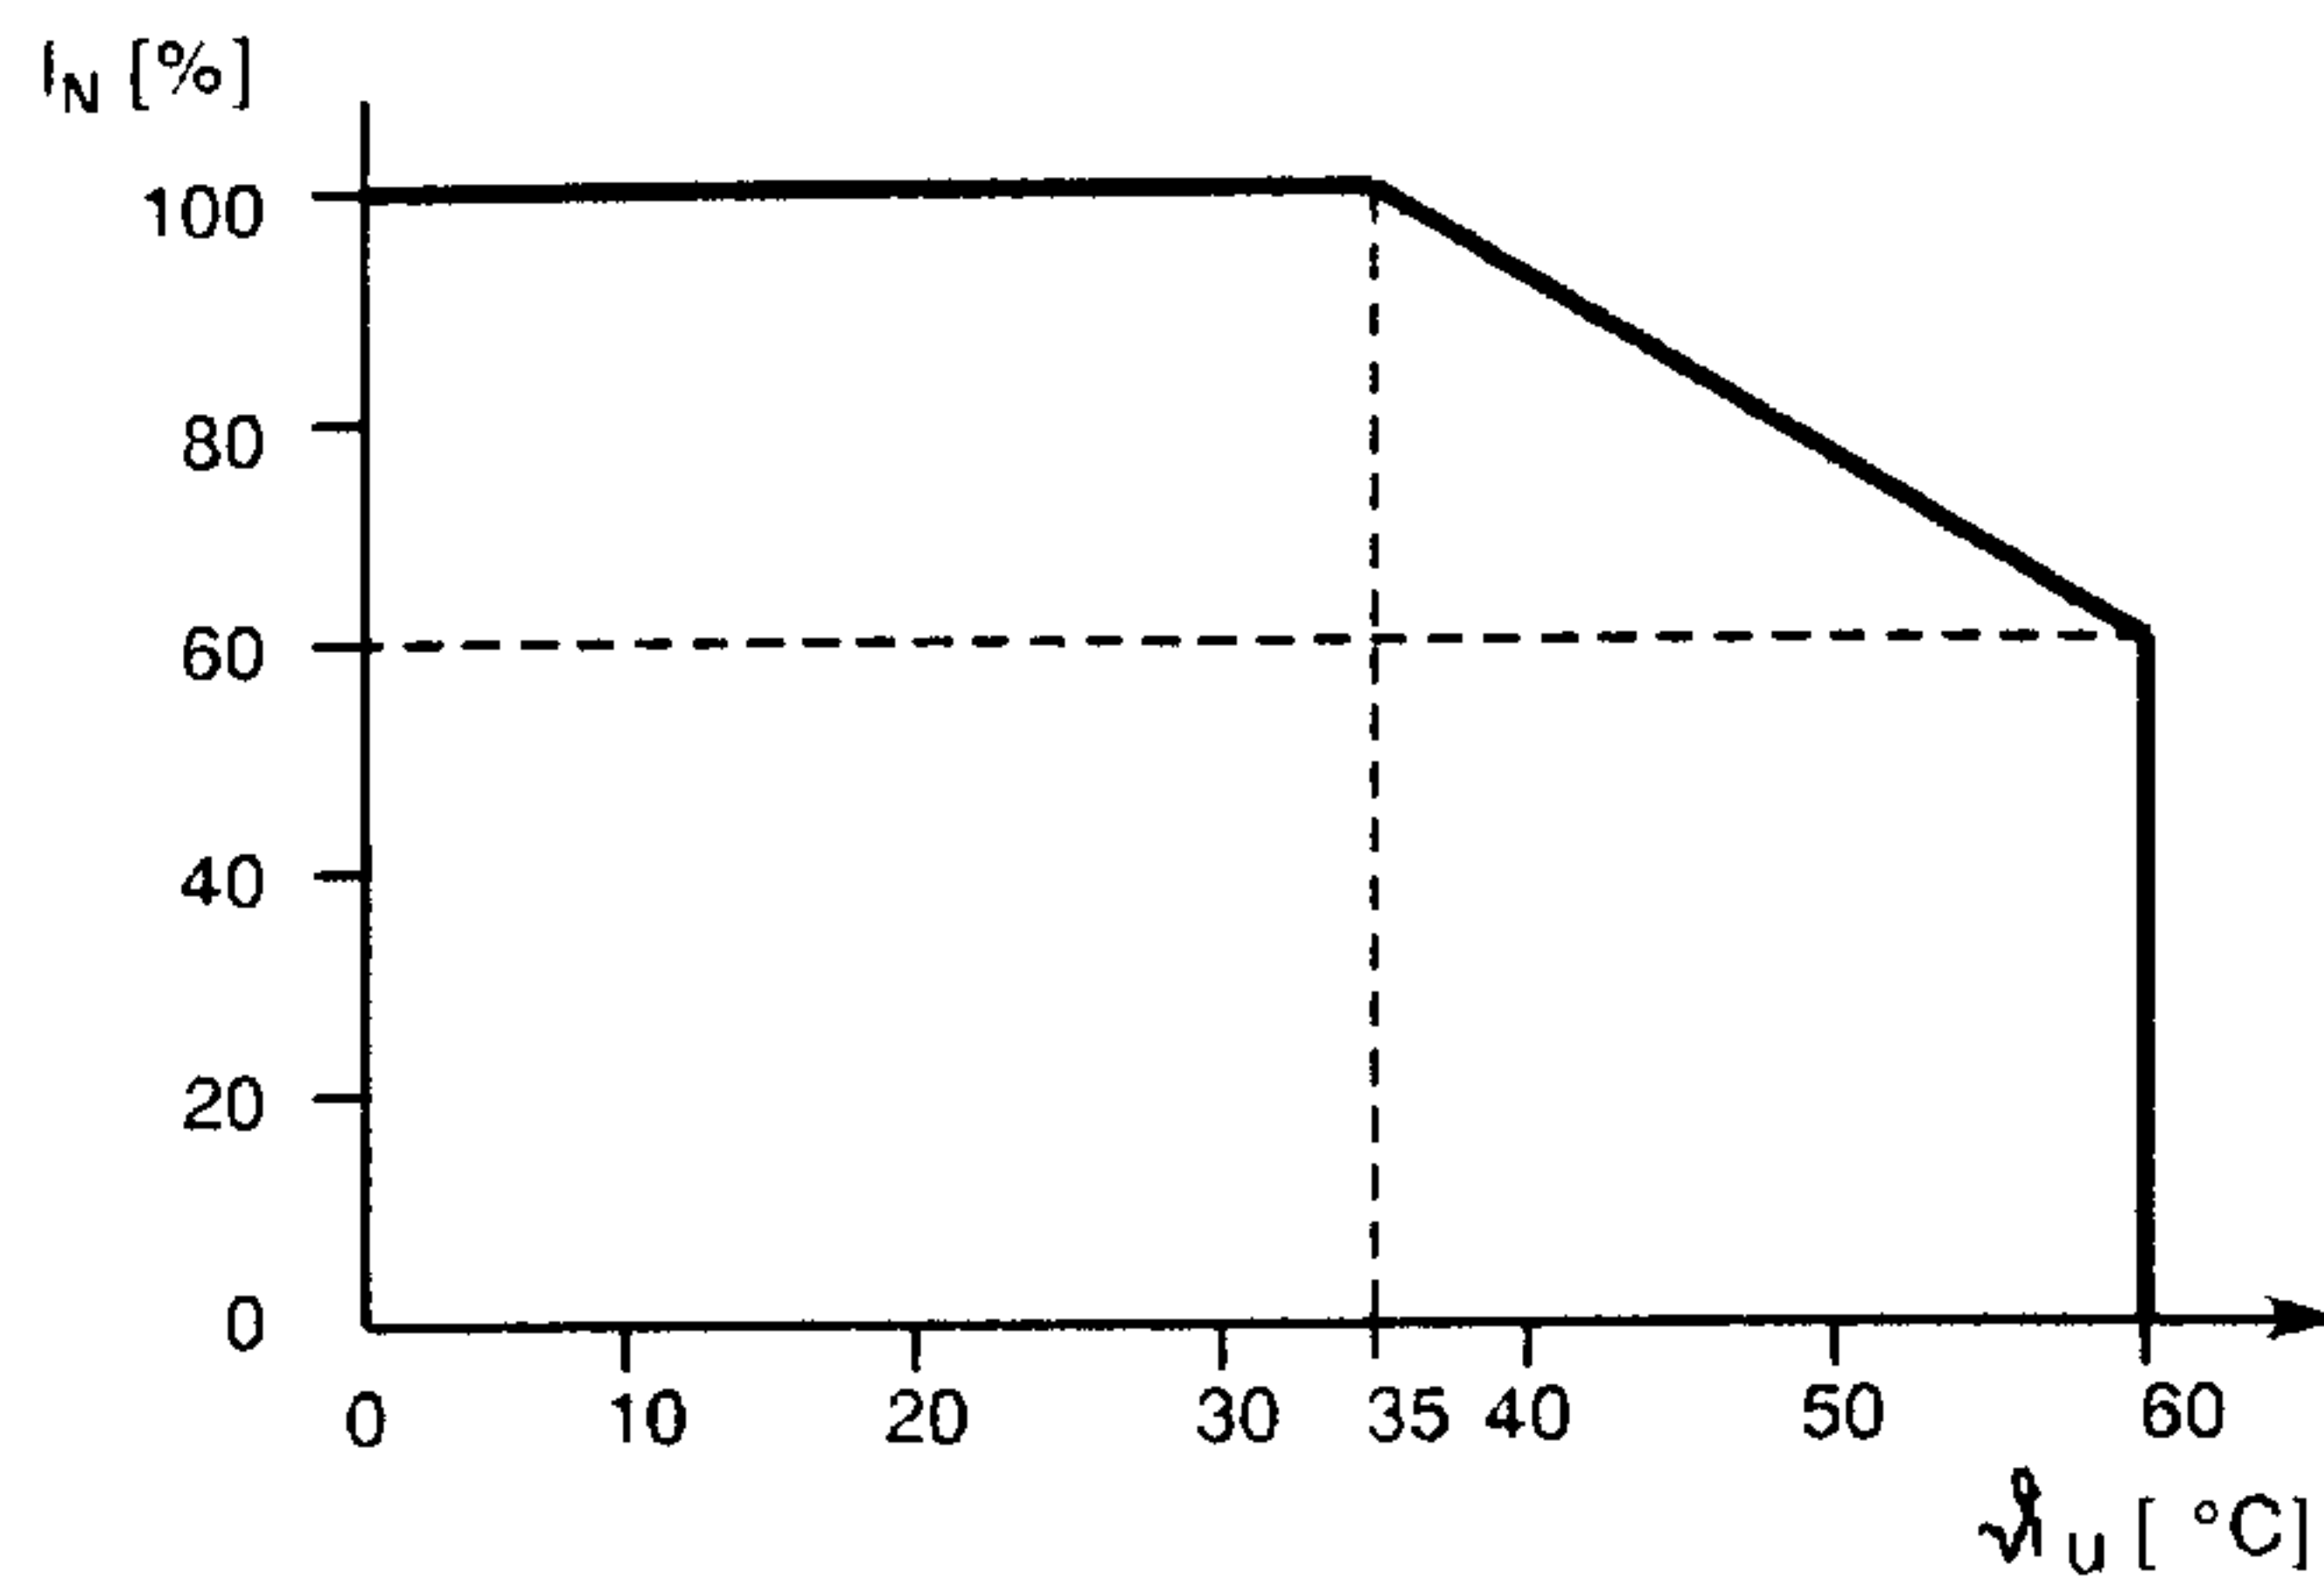

Fig. 1.5 Power reduction with raised inlet air temperature
• Inlet air temperature	0 °C to +60 °C (also refer to Fig. 1.5)